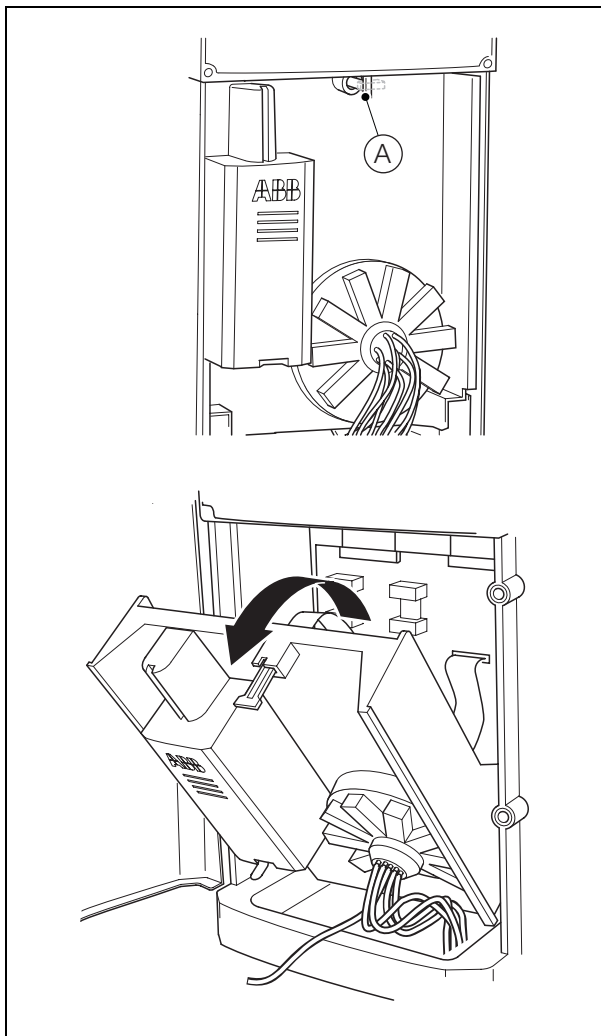

Fig. 12.8 Opening the Analytical Section
1. Referring to Fig. 12.8, turn handle (A) 1/4 turn clockwise, pull the analytical section forward and allow it to rest against its stops.
1. Referring to Fig. 12.8, raise the analytical section to the upright position and secure with handle (A).